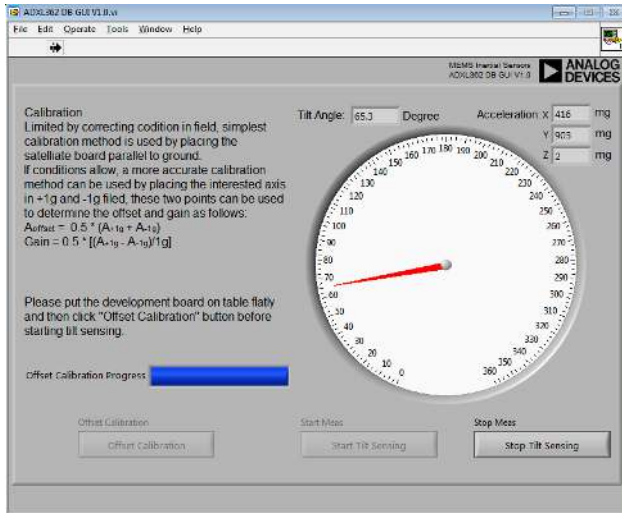

Figure 39. Inclinometer Demo
- ADXL362 DB GUI also support inclinometer demo. Go to **Inclinometer** tab, read the notes firstly. Then, put the development board on table flatly to make it parallel with the ground (z axis in 1g field), click **Offset Calibration** button, wait around 10 seconds to finish offset calibration. After that, click **Start Tilt Sensing** button to test the development board tilt angle (please try to make z axis in 0g filed when playing tilt sensing). You can click **Stop Tilt Sensing** button to stop tilt sensing function at any time (See Figure 39).